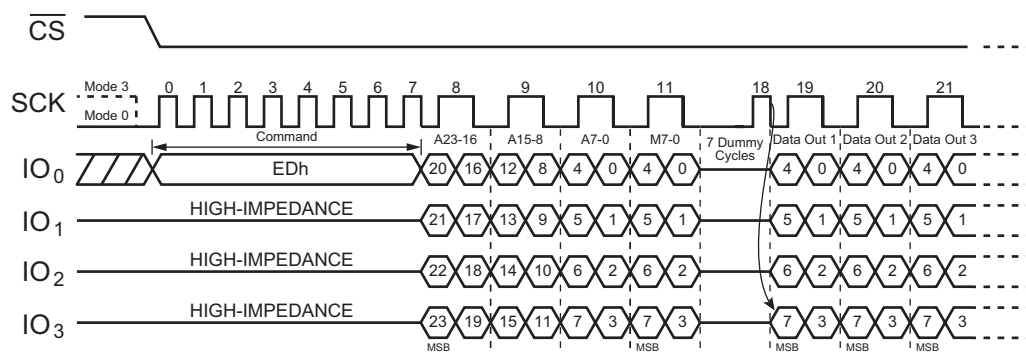
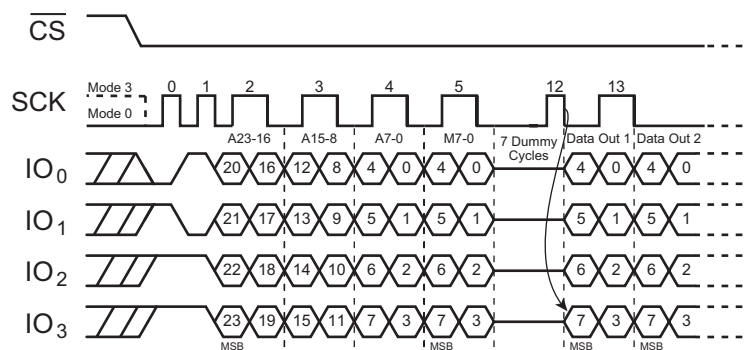
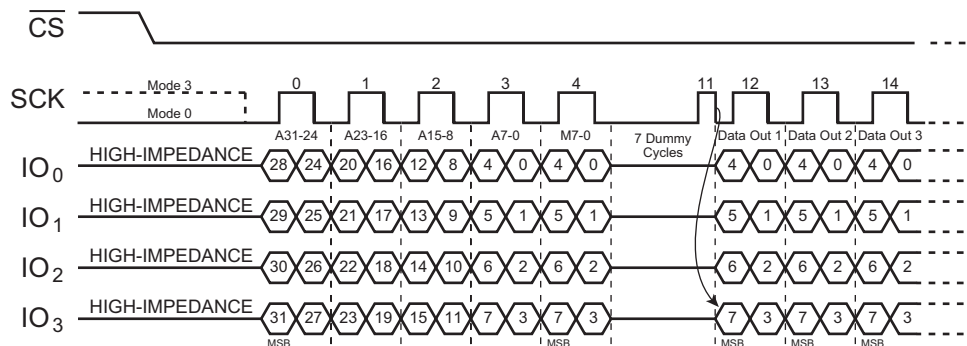

Figure 51. DTR Fast Read Quad I/O (SPI Mode, Three-Byte Address Mode; Initial command or previous (M5-4≠(1,0)))
Figure 55. DTR Fast Read Quad I/O (QPI Mode, Three-Byte Address Mode; Initial command or previous (M5-4≠(1,0)))
Figure 58. DTR Fast Read Quad I/O (QPI Mode, Four-Byte Address Mode; Initial command or previous (M5-4=(1,0)))
The DTR Fast Read Quad I/O (EDh) command is similar to the Fast Read Dual I/O (BBh) command, except that address and data bits are input and output through four pins: IO0, IO1, IO2, and IO3; also, four Dummy clocks are required in SPI mode before the data output, as shown in Figure 51 to Figure 58. The Quad Enable bit (QE) of Status Register must be set to enable.
The DTR Fast Read Quad I/O command is also supported in QPI mode, as shown in Figure 55 to Figure 58. In QPI mode, the Continuous Read Mode can further reduce command overhead by setting the Continuous Read Mode bits (M7-0) after the input Address bits (A23/31-0). See the description on previous pages. If the Continuous Read Mode bits (M5-4) = (1,0), the next Fast Read Quad I/O command (after CS is raised and then lowered) does not require the EDh opcode. If the Continuous Read Mode bits M5-4 do not equal (1,0), the next command requires the first EDh opcode, thus returning to normal operation. A Continuous Read Mode Reset command can also be used to reset (M5-4) before issuing normal command.